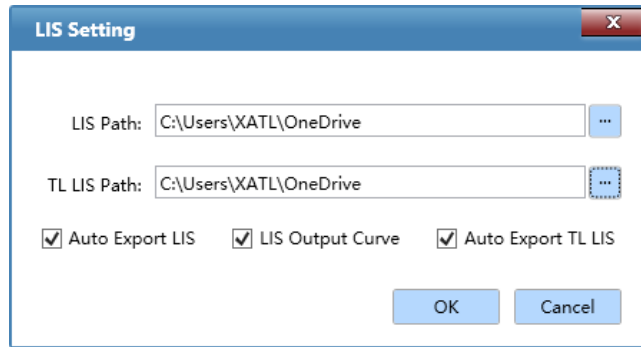

Figure D-3.9. LIS Setting
2. **LIS Setting**: Click **LIS Setting** option in the **Option** submenu to set the LIS path and TL LIS path, as shown in figure D-3.9. Admin can check the check box to make sure if the auto export LIS, LIS Output Curve and Auto Export TL LIS are needed or not.